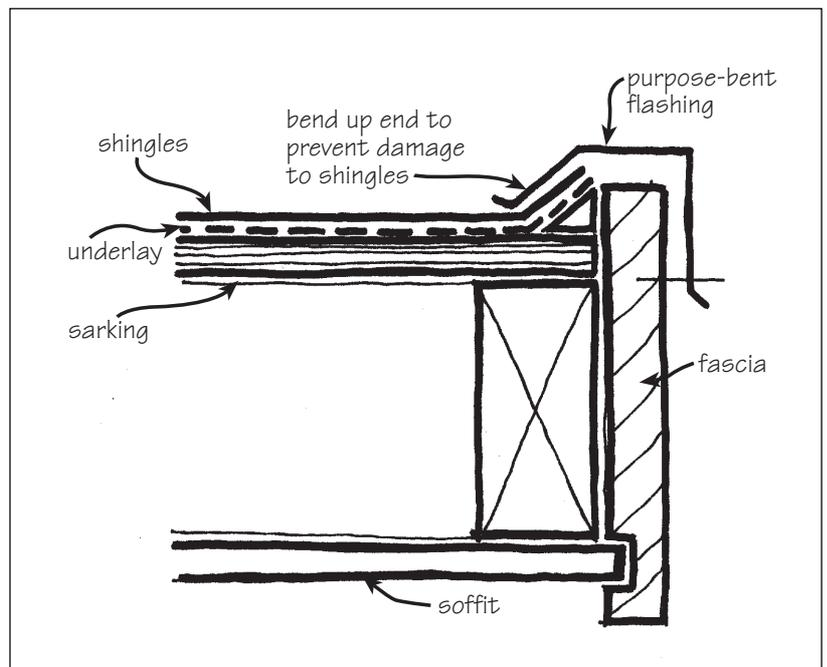

Figure 3. Alternative gable detail.
3.3.3 At gable ends place the underlay before installing the drip edge. Fixing the drip edge over the underlay prevents moisture getting behind the underlay. An alternative gable end detail uses an angle fillet with a factory-coated galvanised steel purpose-bent flashing, as shown in Figure 3.
- constructed as shown in Figure 3.